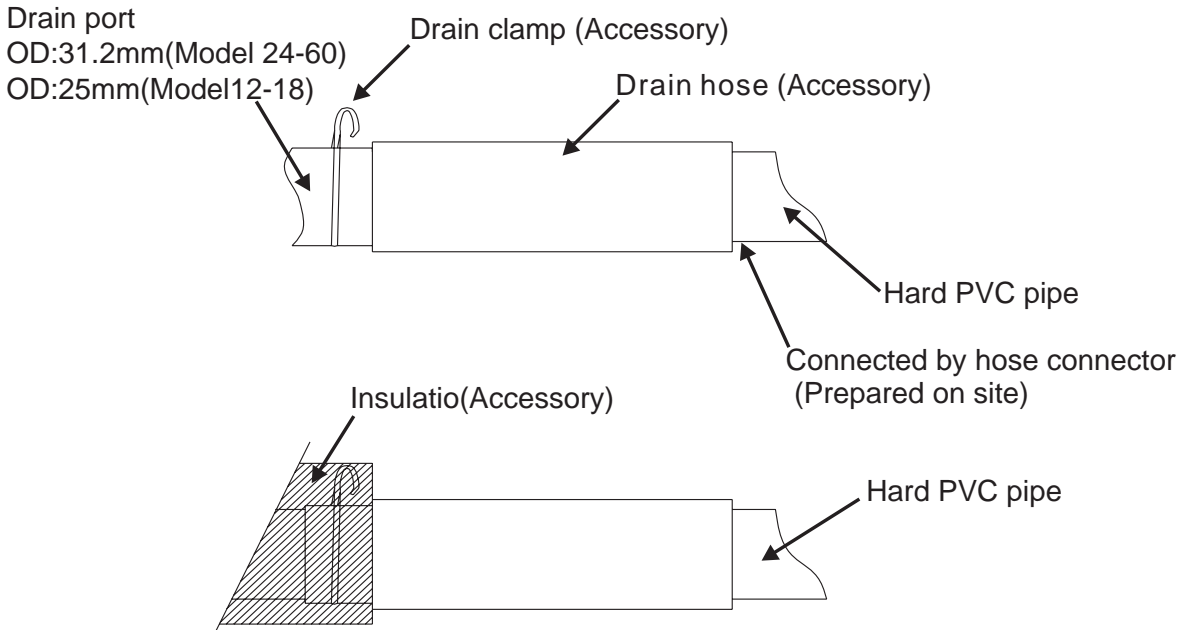

Fig.12
3. Insert the drain hose until it connects the drain port very well, and then secure it tightly with the hose clamp (Prepared on site) ( Fig.12)
4. After checking the drainage, wrap the drain hose with the insulation and clamp. (Prepared on site) ( Fig.12)